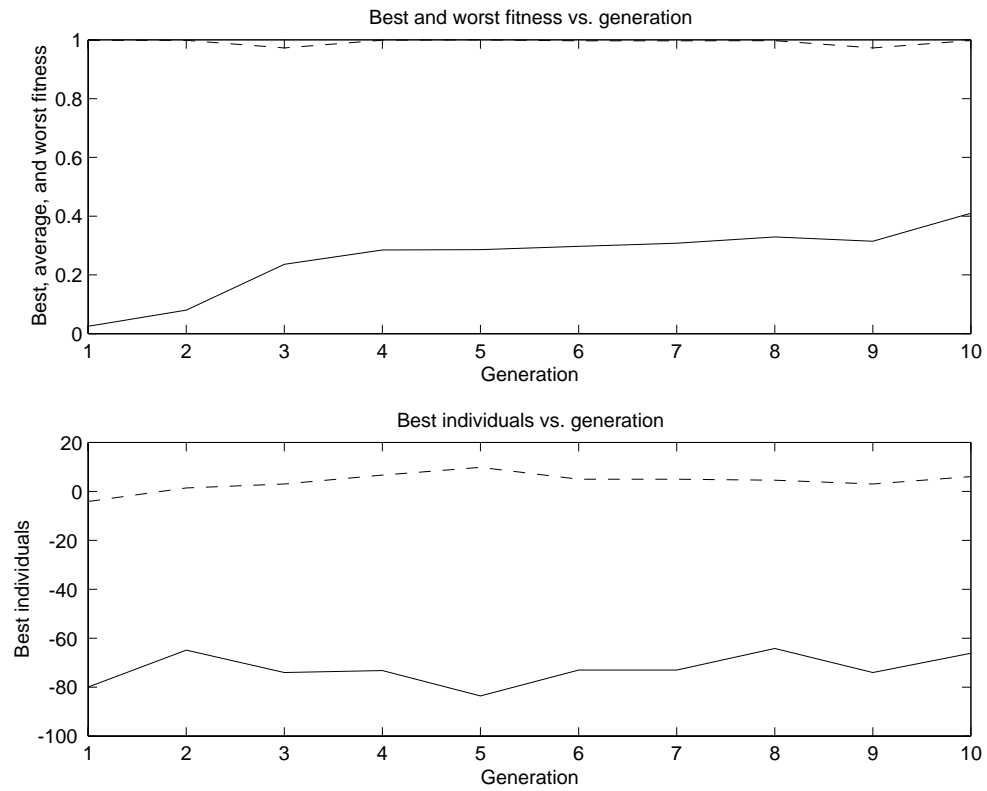

Figure 22: Fitness and best individuals.
- The trend towards optimizing their placement of coffee plantations is shown in Figure 22